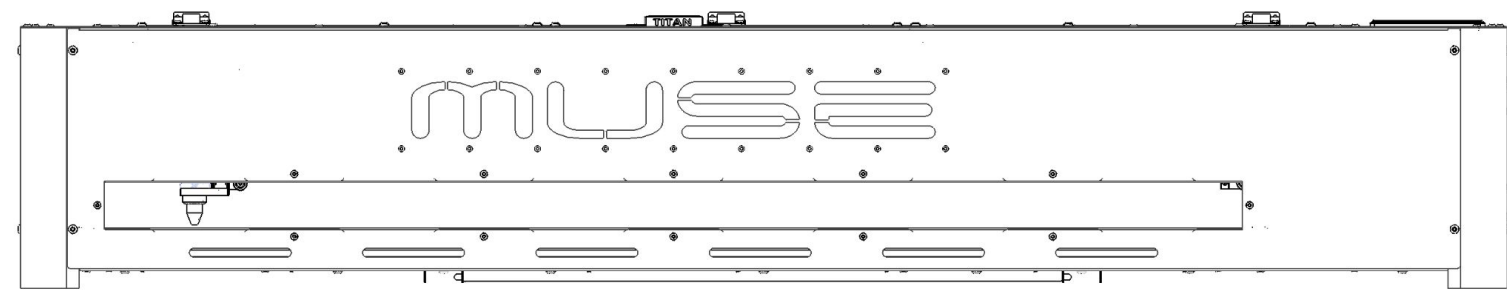

Fig. 20
3. You can now pull the bracket off the machine and use your pass-through (see Fig. 20).